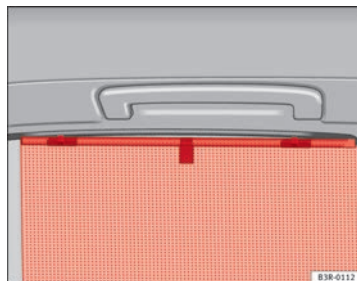

Fig. 98 Sun blind extended to cover rear side window
- Pull out the blind and hook it into the hooks at the top of the door frame ⇒ Fig. 98.